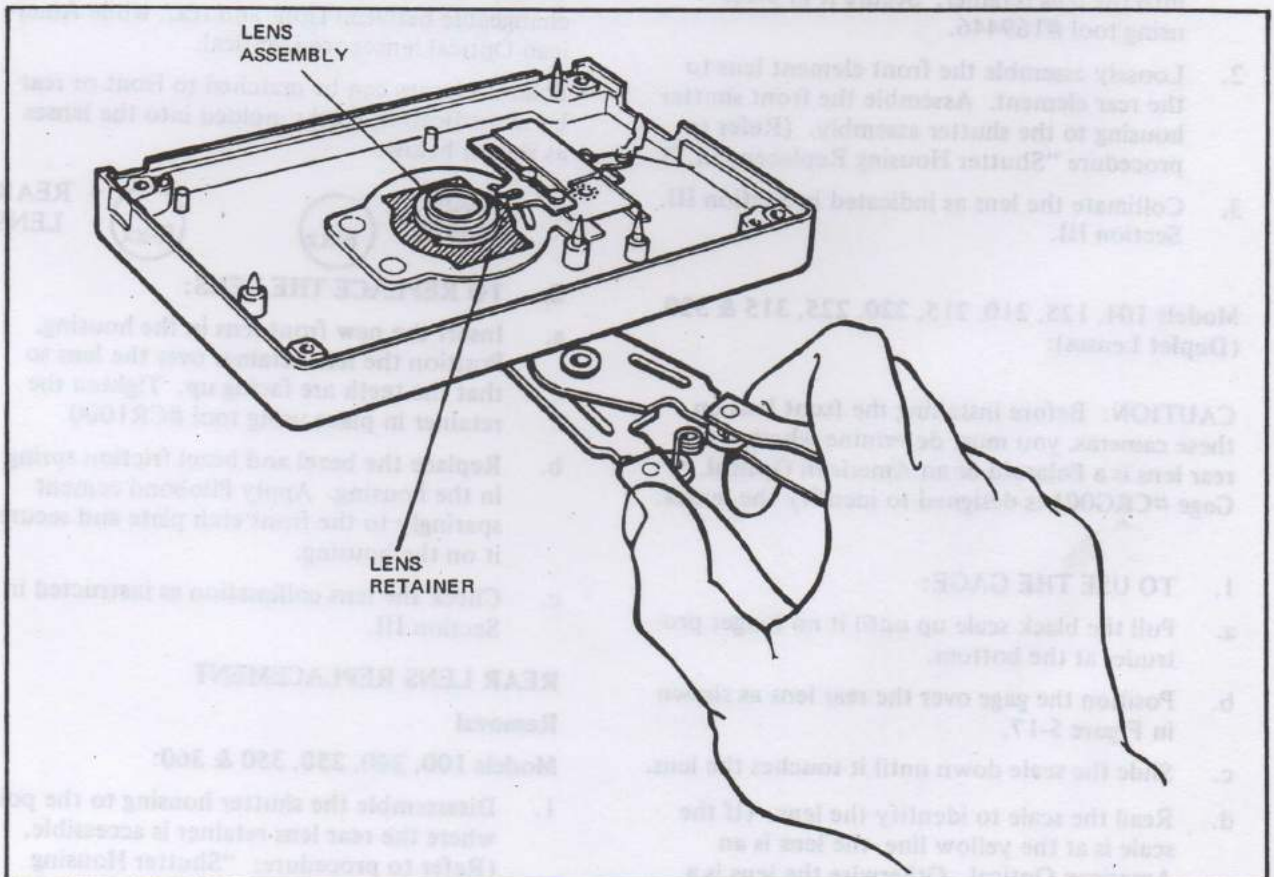

FIG. 5.15 REMOVING THE FRONT LENS - PLASTIC SHUTTER HOUSING
2. Remove the front lens assembly from the camera using tool #169446. Position the tool in the lens mount and squeeze the handle until the head is firmly against the mount (Figure 5-15). Rotate the handle counterclockwise until the lens assembly is free of the lens retainer.